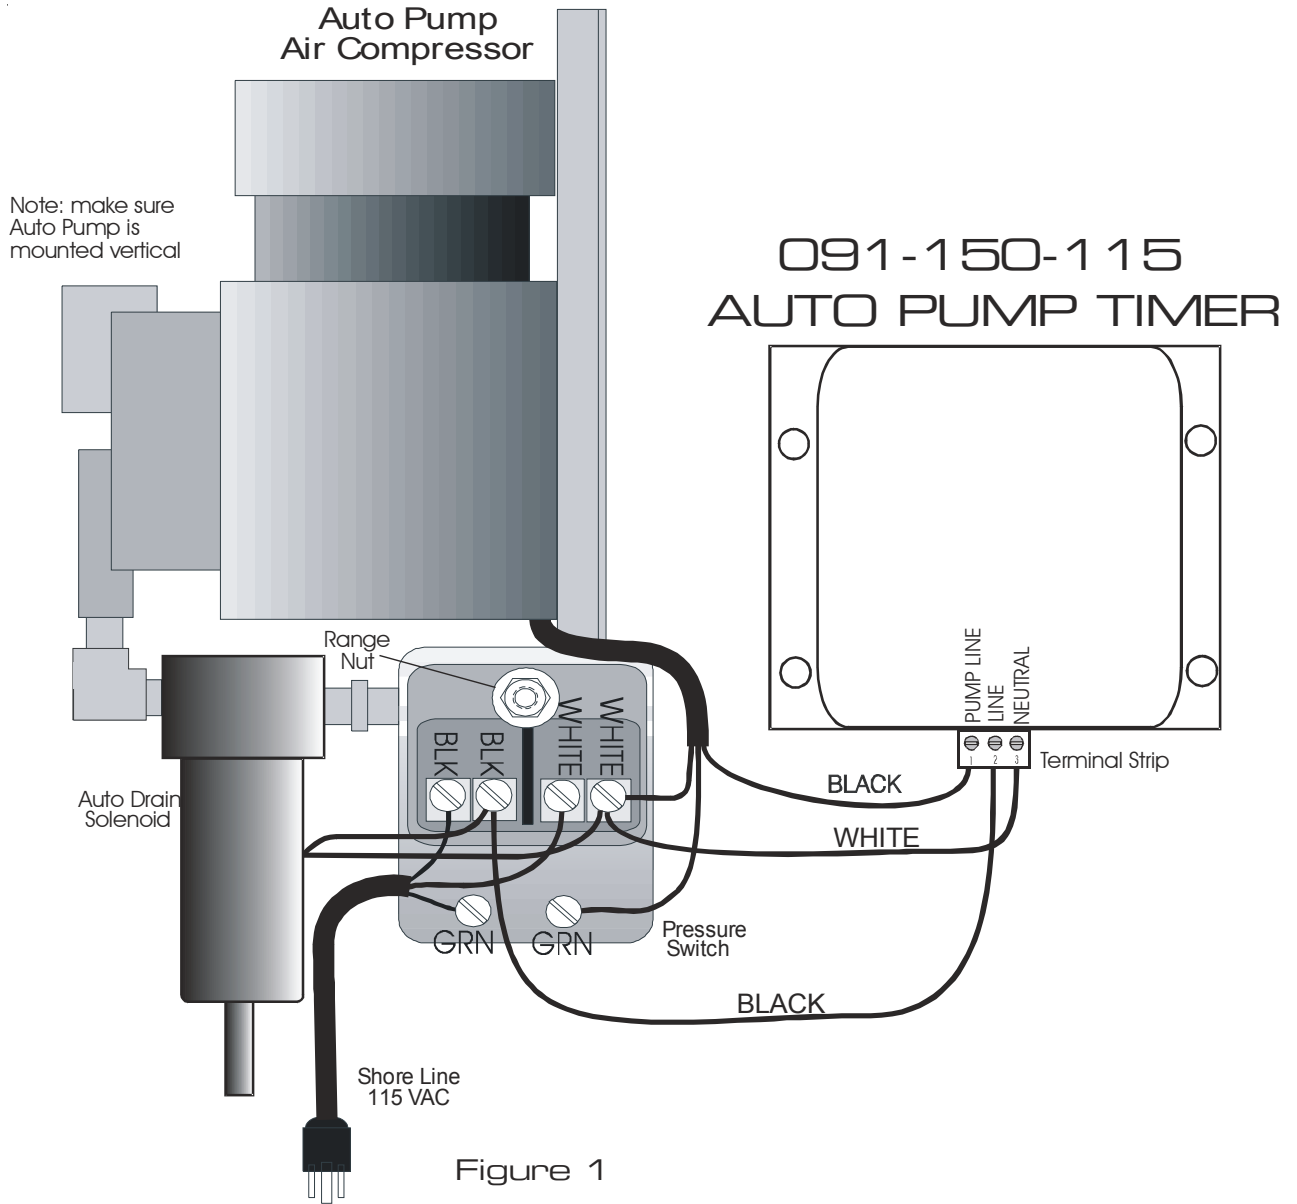

Figure 1
2. Open the Pressure Switch assembly (mounted on the Auto Pump). Move the black or brown wire( line wire) from the pressure switch to the first position of the terminal strip (see Figure 1 or 2).
3. Connect a 16AWG wire from the second position of the terminal strip to the open terminal on the pressure switch as seen in Figure 1 or 2.